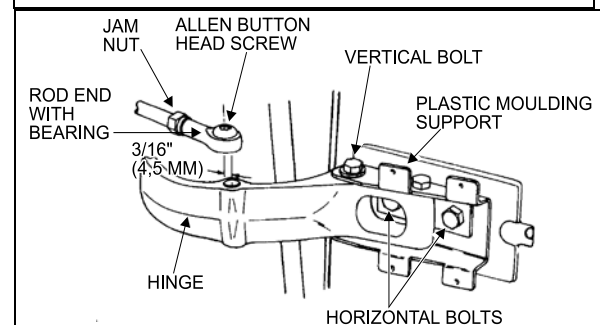

FIGURE 27: UPPER DOOR HINGE (COACH)
2. Remove the Allen button head screw and the washer retaining the rod end with bearing to the upper hinge. See Figure 27.